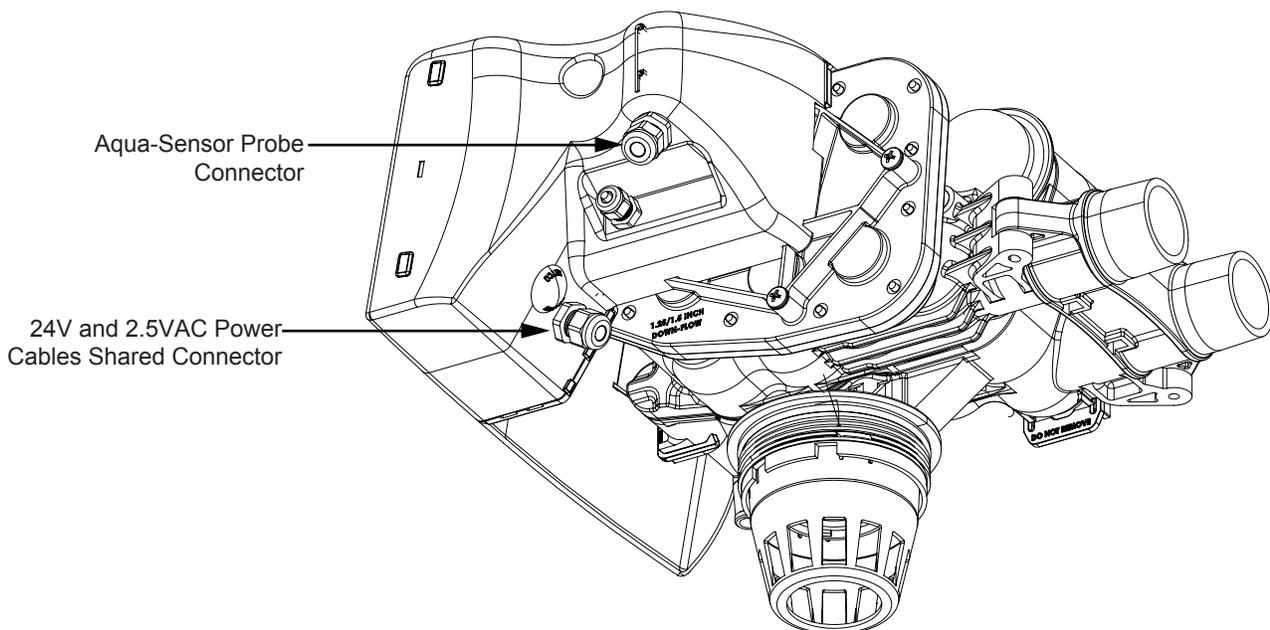

Figure 25. 24V Power and Aqua-Sensor connections on the controller.
8. Insert the 24V and 2.5VAC power cords through the shared bushing (P/N 01025264). See Figure 25.